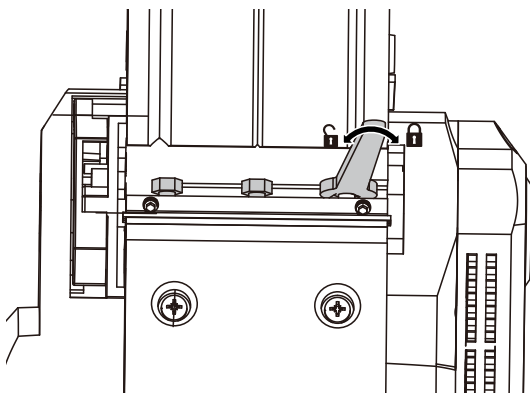

Figure 9-1
6. BLADE FITTING AND CHANGING (SEE FIG. 9-1 & 9-2 & 9-3 & 9-4)
1) Using the blade spanner provided to loosen the three installation screws anti-clockwise (see Fig. 9-1).